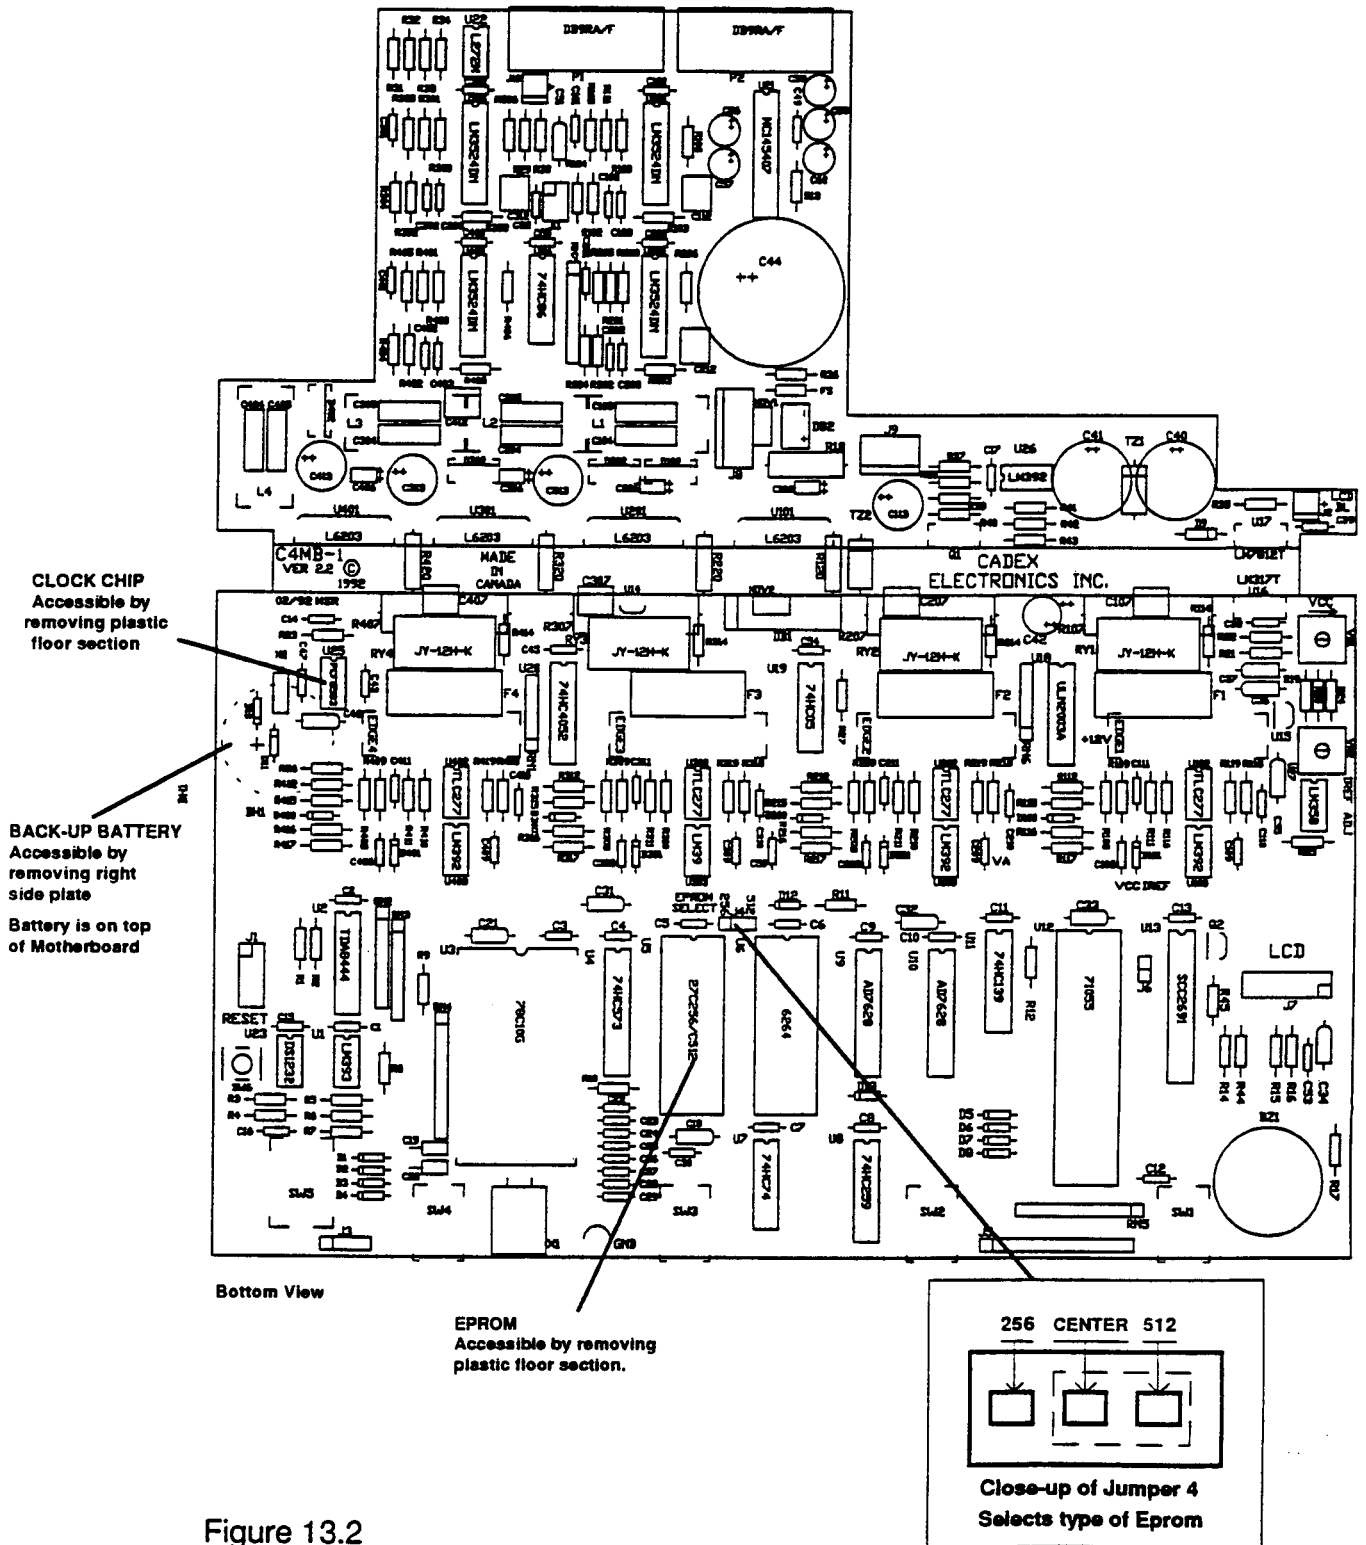

Figure 13.2
2. Identify the EPROM and observe its orientation (refer to Figure 13.2 at the end of this chapter). Note the orientation of the notch at one end of the device.
2. Identify the EPROM and observe its orientation (refer to Figure 13.2 at the end of this chapter). Note the orientation of the notch at one end of device.